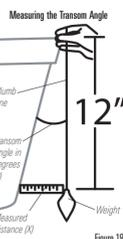

Figure 18
- 1b. If you do not know your transom angle, measure it using a plumb line (weighted nylon string or monofilament line) exactly 12 inches long. Hold the top of the plumb line against the top of the transom with your finger, and wait until the line hangs straight down (Figure 18). Using a ruler, measure the distance from the bottom of the plumb line to the back of the transom, then use the chart (Figure 17).
NOTE: It is important to take your measurement in the location shown in Figure 18, from exactly 12 inches down from the top of the transom.